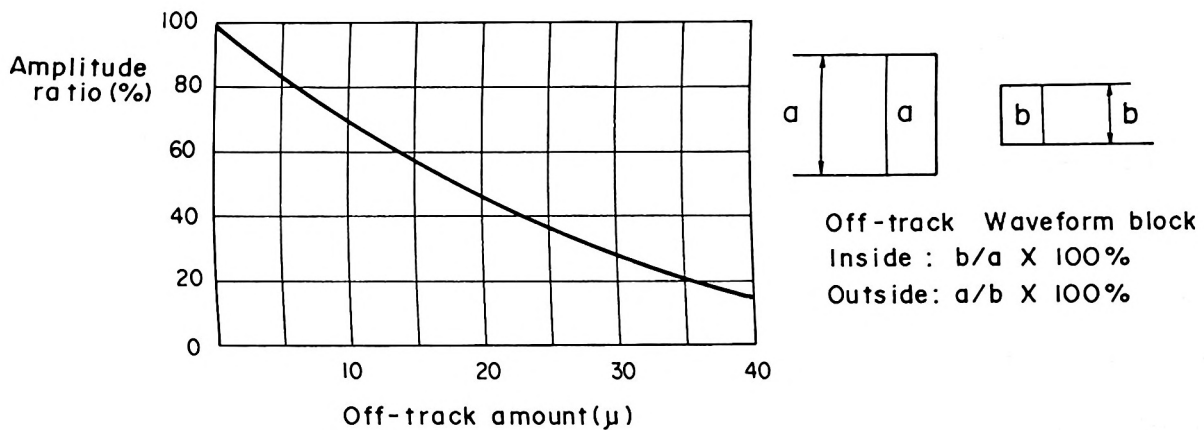

Fig. 4
- 5) Determine the output ratio in one block of the servo pattern waveform, and obtain the off-track amount from Fig. 4. At this time, make sure the off-track amount is within $2 \mu\text{m}$; otherwise, adjust as follows.